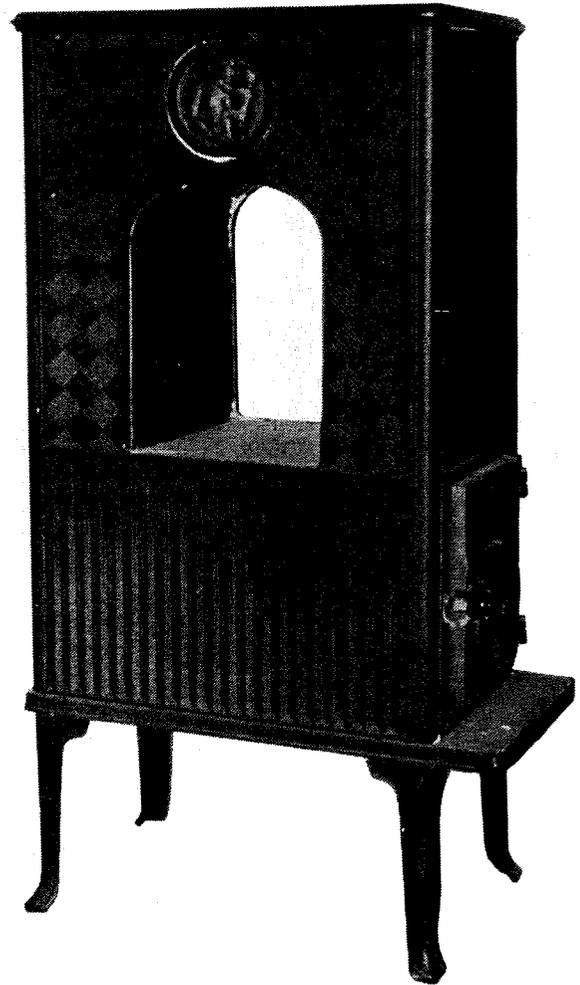

Fig. 7. Jøtul 606 box stove.
9. **Kristia Associates** (importer), 343 Forest Avenue, Portland, ME 04104. Jøtul stoves (Fig. 7 and Table 1) have set the standard for the entire wood-burning industry for quality construction, efficiency, and beauty. They come with horizontal and side baffles. Sides are embossed with North Woods scenes by recognized Norwegian artists.